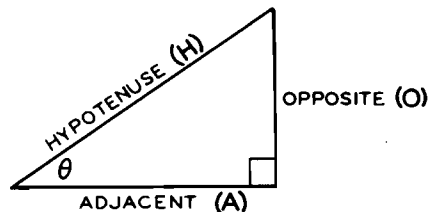

Figure A9
5. (angle) Refer to Figure A9. We will use this right triangle to show the basic trig functions. Note that we have selected one of the acute angles to use in expressing the functions. We call this angle θ (the Greek letter theta). The sides are labeled with reference to this angle. The side directly across from θ is called the opposite side (O). The side next to θ is called the adjacent side (A).
6. (hypotenuse) The six basic trig functions of the angle θ in Figure A9 are given below: